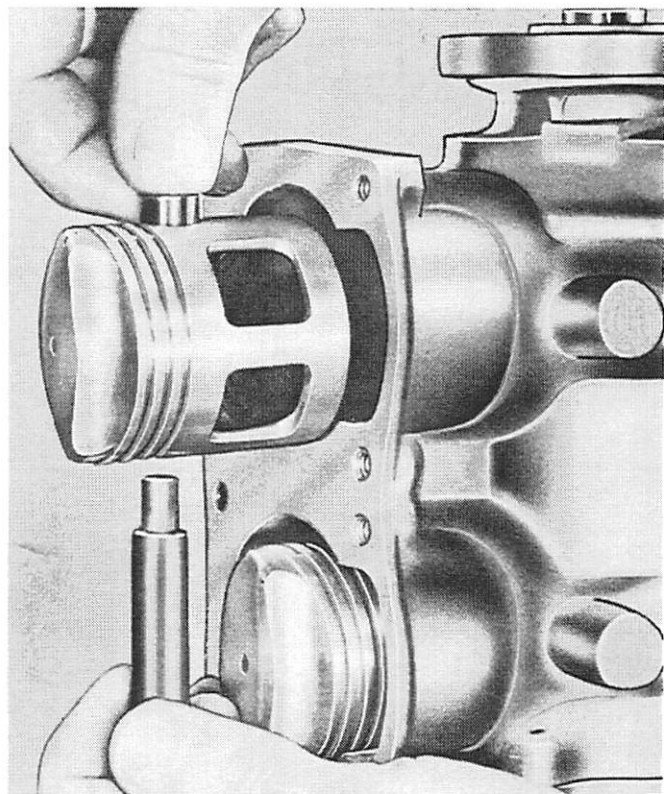

Figure 16. Replacing Piston Pin
6. Push out sleeve with punch part of tool from bottom and set open end of piston pin on small end of piston pin tool. (Figure 16)